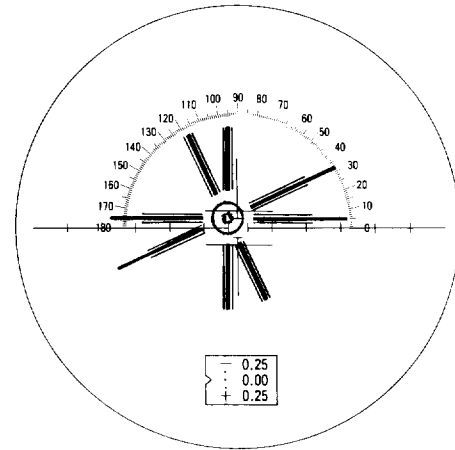

Fig. 5-3
- (3-2) If the target is off the center of view field as Fig. 5-3 and the target rotates around its own axis when operating the target rotation handle, carry out adjustment as follows: